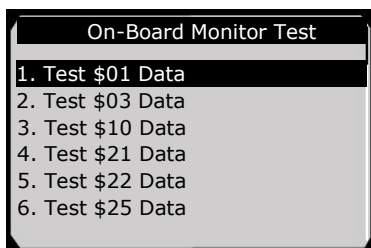

Figure 6.28
- 5) From the **On-Board Monitor Test** menu, use the **UP/DOWN** scroll button to select a test to view and then press the **OK** button. (Figure 6.28)